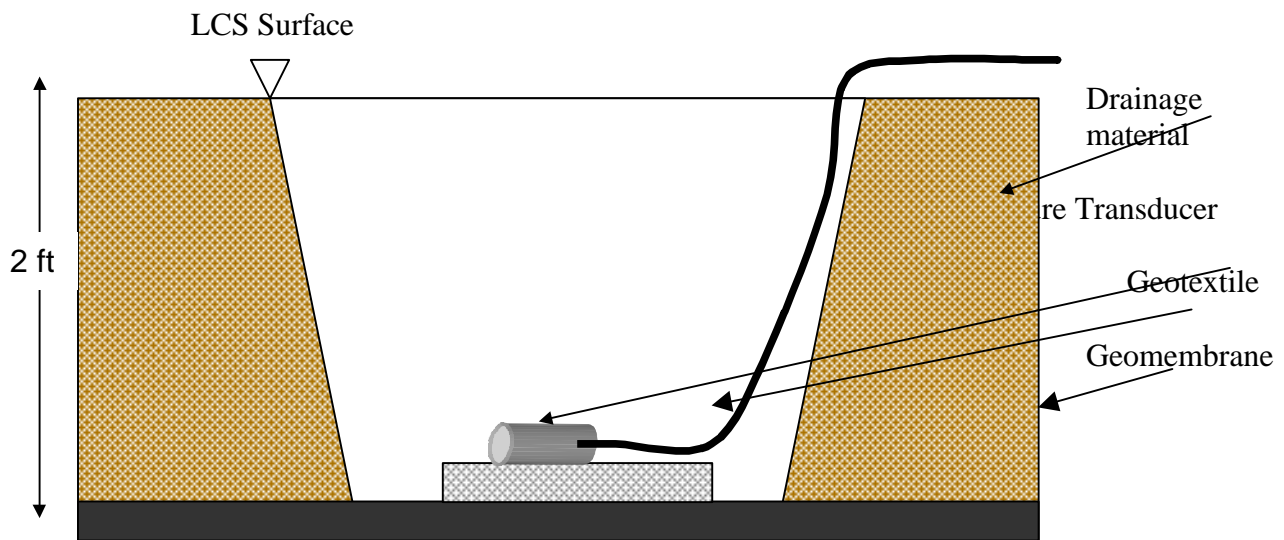

Figure 3. Typical Pressure Installation diagram.
2. Once the liner was reached, the excavation was expanded until approximately 1 foot of the liner was exposed. A piece a Geotextile slightly smaller than the liner was placed directly on top of the exposed portion of the liner. This Geotextile acts as a pad between the liner and the pressure transducer and eliminates direct contact between the two. Figure 3 shown below represents a typical pressure transducer installation diagram.